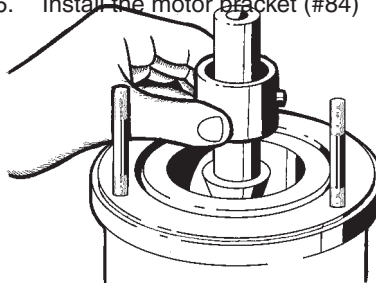

Figure 4-7
5. Slide the cartridge bearing (#16B) over the shaft with the face grooves oriented down towards the motor. Refer to figure 4-7 & 4-9.